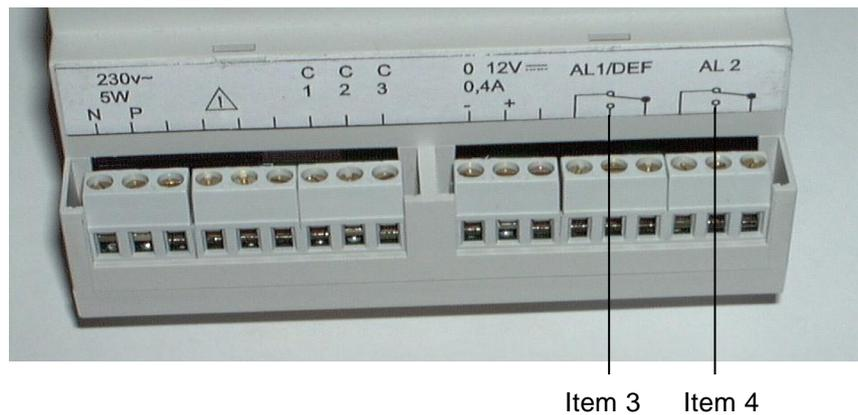

Figure 4 : relays terminals
This relay is equipped with SPDT contacts available on the SV 4B terminal block (Item 3, Figure 4).
- Relay 2 (REL 2), which is "negative safety" mode, corresponds to the second gas threshold only. This relay is also equipped with SPDT contacts available on the SV 4B terminal block (item 4, Figure 4).